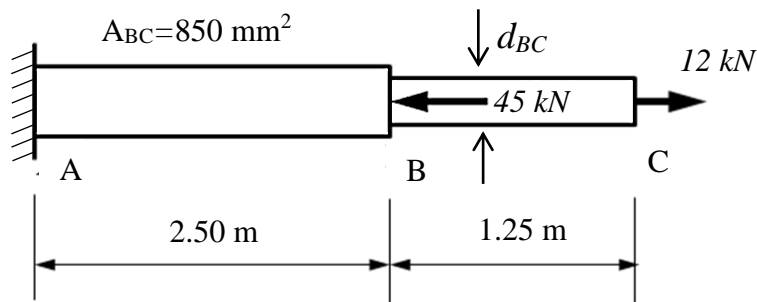

Figure 3 / Rajah 3
2. (a). For the stepped bar ABC in **Figure 3** which is subjected to load of 45 kN at B and 12 kN at C, determine the diameter d_{BC} of solid bar BC so that displacement at C is zero. Point A is fixed. Cross-sectional area of portion AB, length of AB and BC are shown in the figure. Material of the stepped bar has Young's modulus $E=200$ GPa.